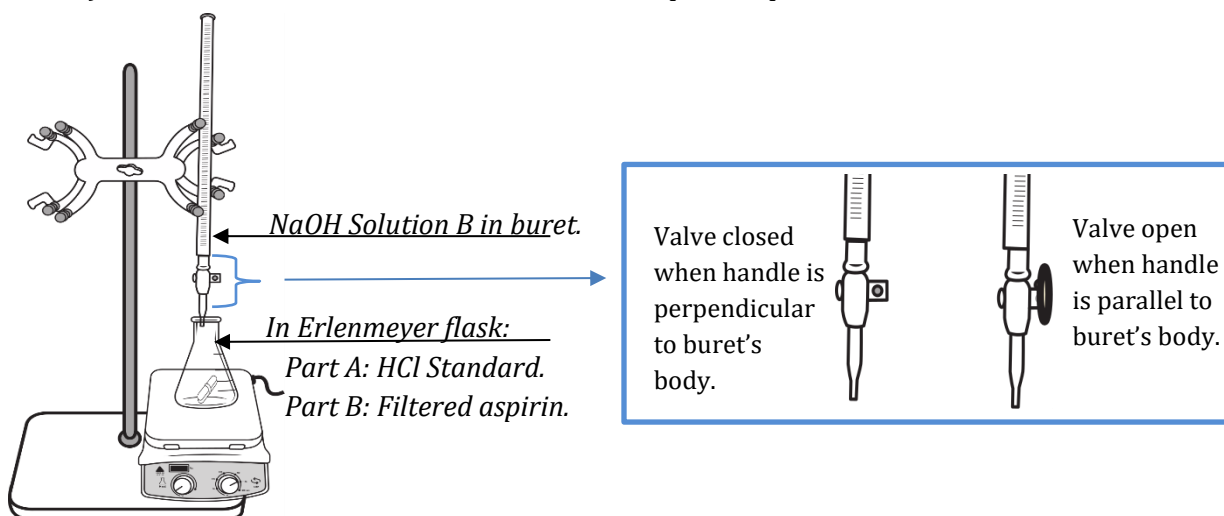

Figure 5. Titration setup (setup on left side of stand if left-handed).
- Place the buret clamp on the stand, and position the magnetic stirrer so that the buret may be suspended as close as possible over the center of the magnetic stirrer. See Figure 5.